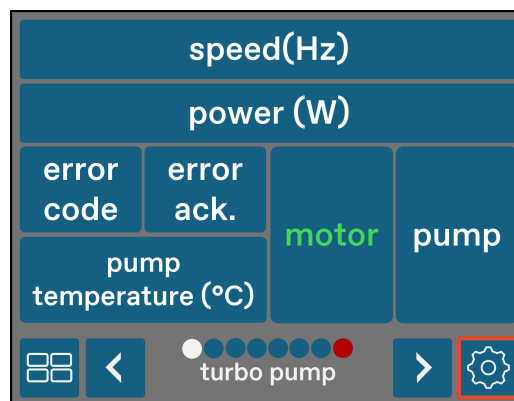

Figure 21: Initial data view of pump control
3. Press the gear symbol on the "turbo pump" data view (Figure 21).